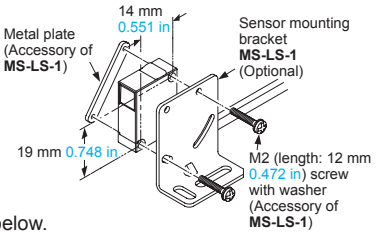

Fig. 1 Proper positioning
- When placing the sensor horizontally or vertically, the reflector must also be positioned horizontally or vertically as shown in Fig. 1 below.